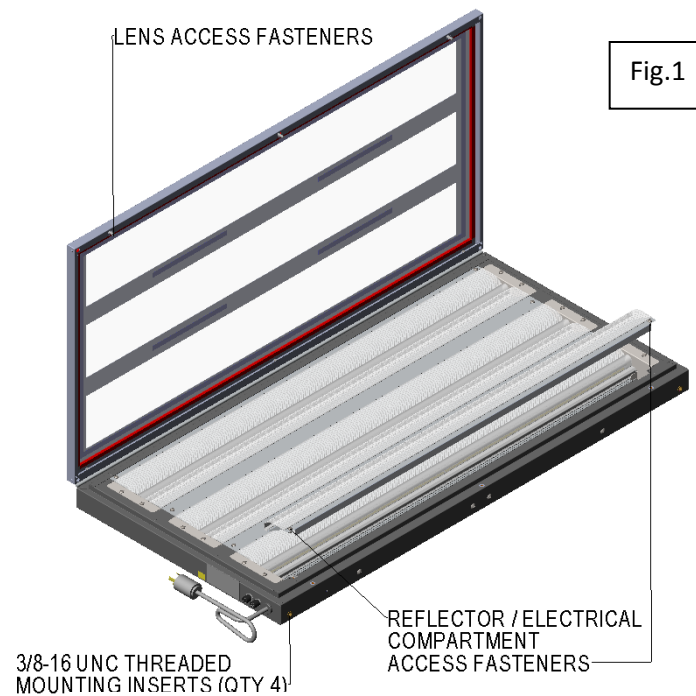

Fig.1
2. Remove/loosen the access fasteners for the lens and reflector assembly as shown in figure 1.
3. Disconnect the led module electrical disconnect shown in Figure 1.